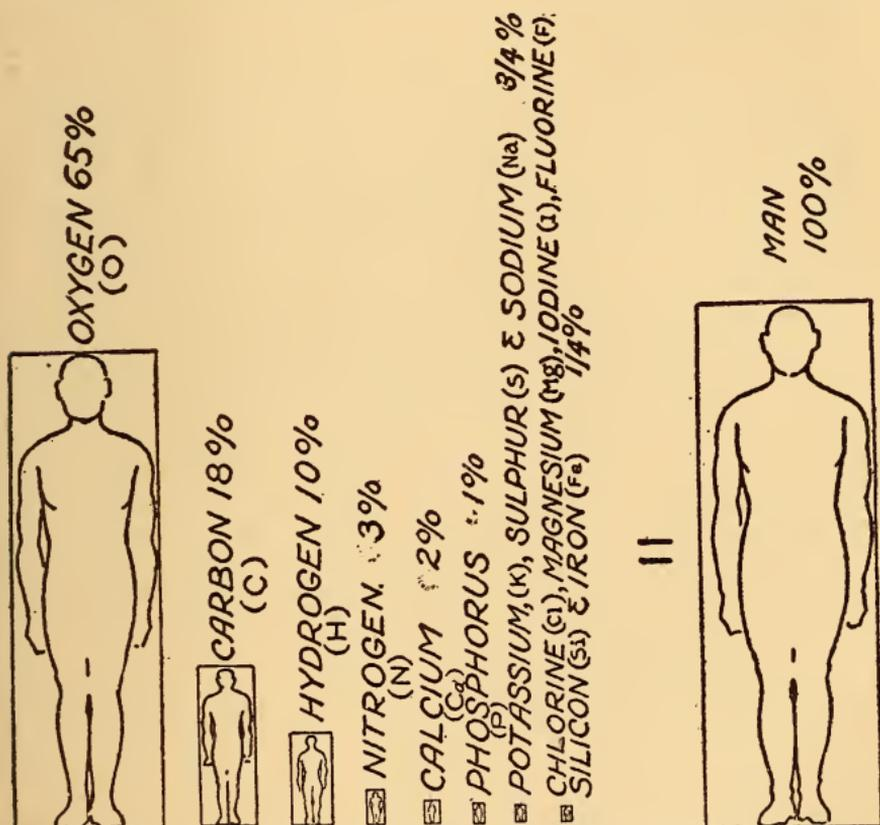

FIG. 15. WHAT THE HUMAN BODY IS MADE OF
**What the Human Body Is Made Of.**—Like water, acids, gases and salts the human body is a chemical substance, but is a complex one, for it is formed of fifteen *elements*, see Fig. 15, as follows: